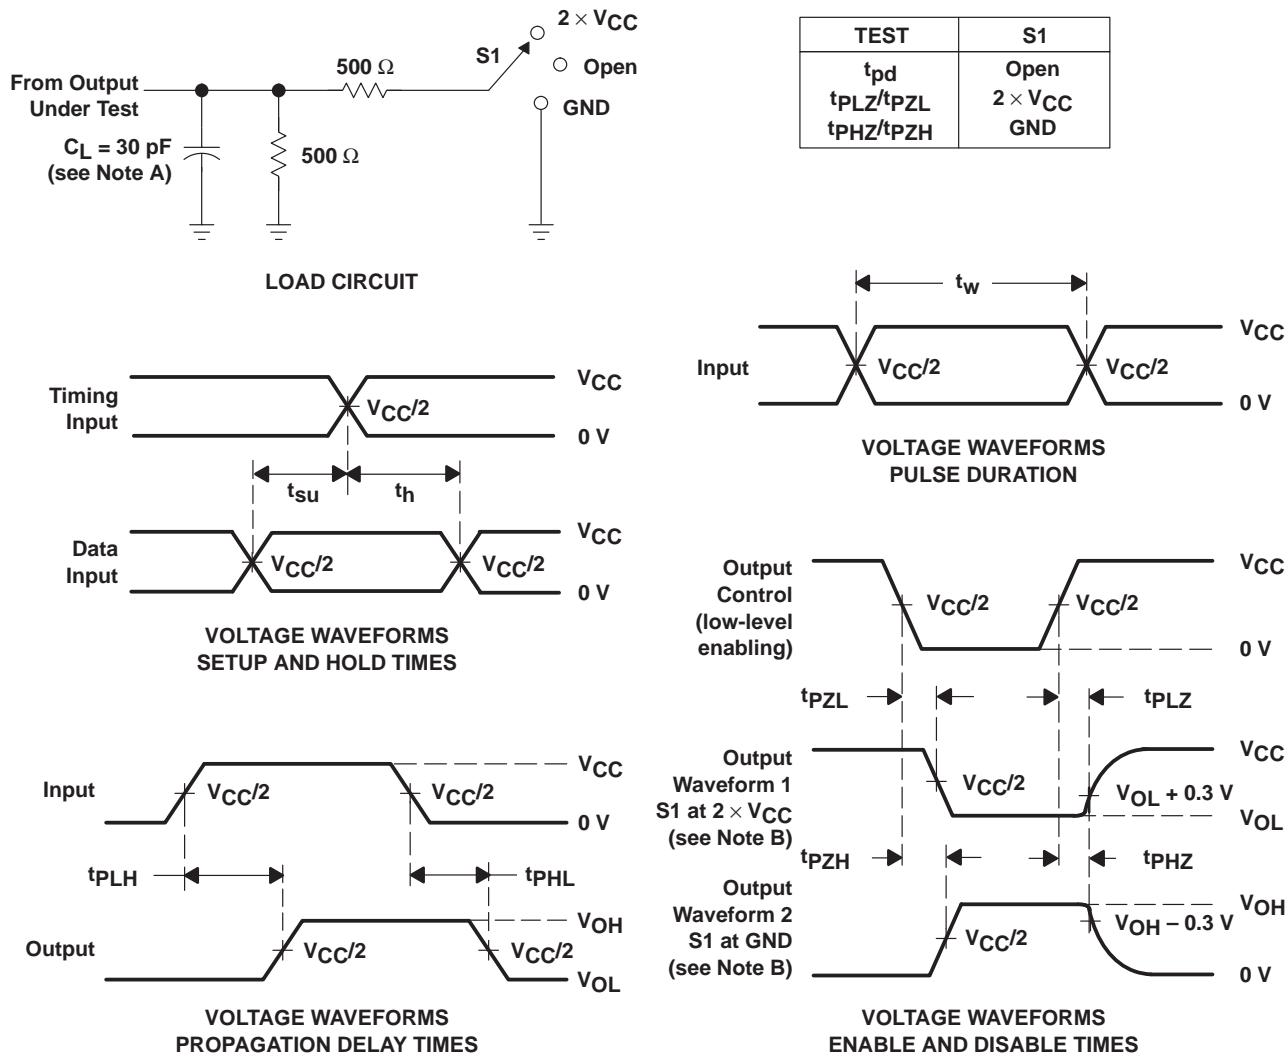

Figure 1. Load Circuit and Voltage Waveforms
**switching characteristics over recommended operating free-air temperature range (unless otherwise noted) (see Figure 1)**